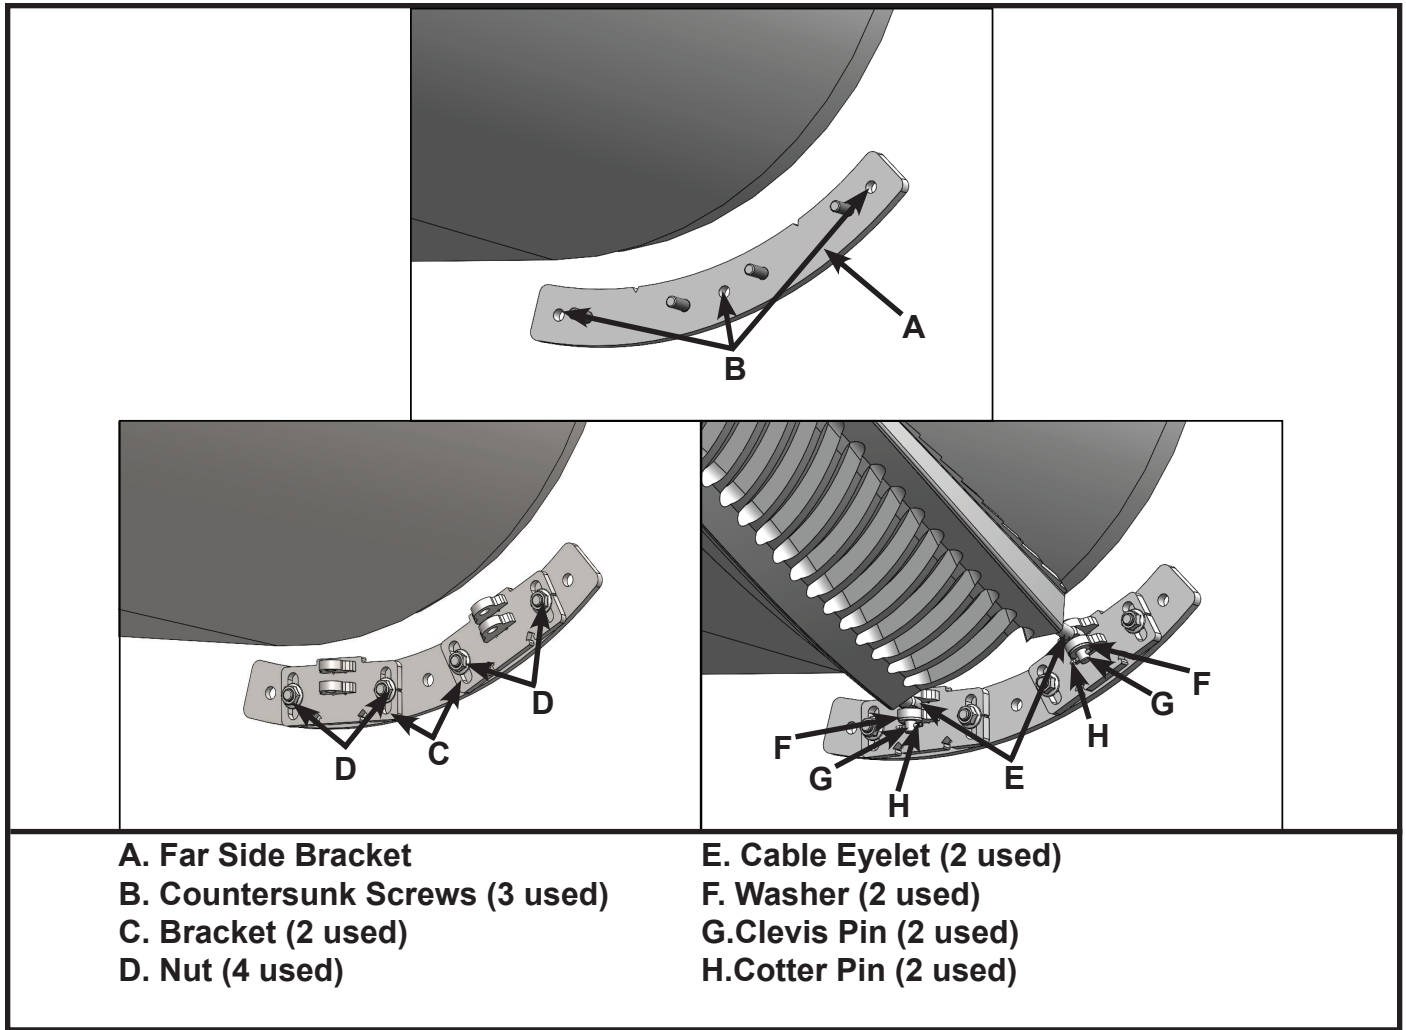

Figure 7. Installing Fixed Point Bracket
- d. Install brackets (C) using nuts (D). Hand tighten nuts (see Figure 7).
- e. Attach cleaner to far side bracket by inserting clevis pin (G) through eyelet (E) and bracket flange (C) then fastening with flat washer (F) and cotter pin (H) on opposite side as insertion side.